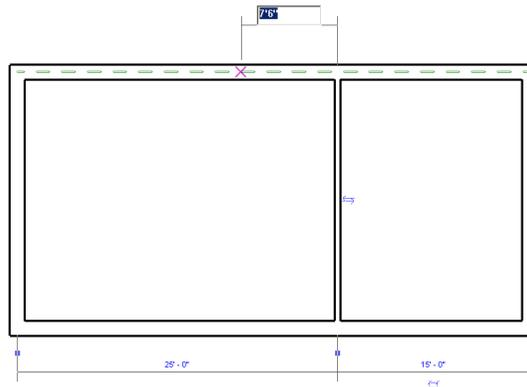

Figure 3-58 Specifying the starting point of the second interior wall
1. To sketch the second interior wall, move the cursor to the upper endpoint of the interior wall you just created and then move the cursor horizontally toward the left. When the temporary dimension and the intersection object snap appears, enter **7'6"** (2286 mm), as shown in Figure 3-58. Now, press ENTER; the start point of the second interior wall segment is specified on the upper horizontal exterior wall.